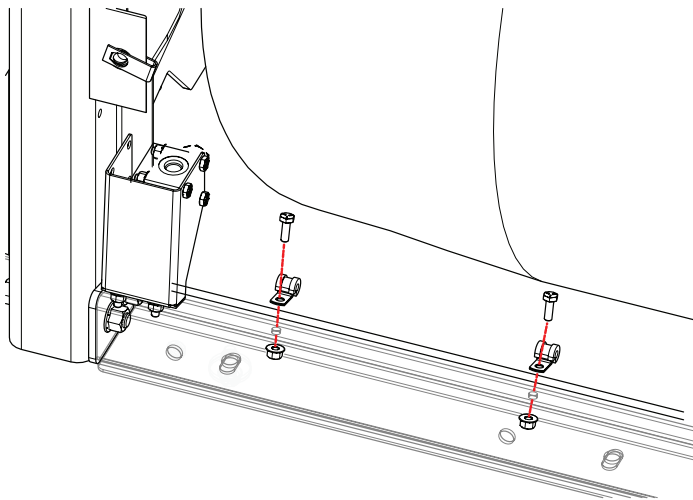

Figure 26: Install the bolts, nuts, and clamps that secure the trigger line to the rail. Quantity is dependent on length of trigger line.
3. Install the bolts, nuts, and loom clamps that secure the trigger line to the rail (Figure 26). Quantity is dependent upon the CNG system and length of the trigger line/rail.